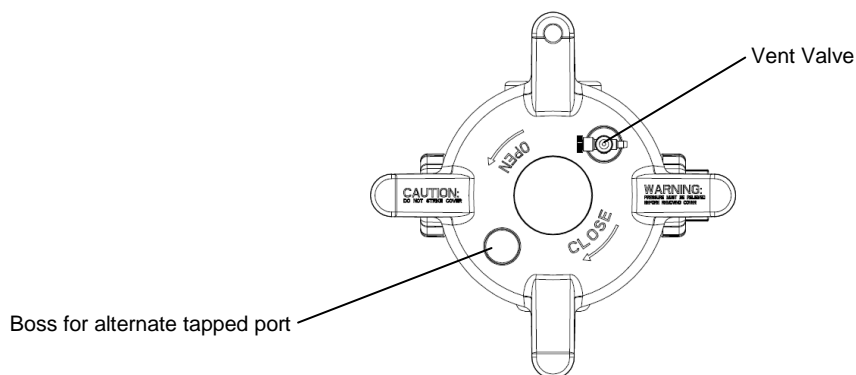

Fig. 3: Vent valve and additional boss on cover
- 1.5.1.2 Remove threaded pipe plug from vent valve located on top of filter vessel cover. (See fig. 3.)